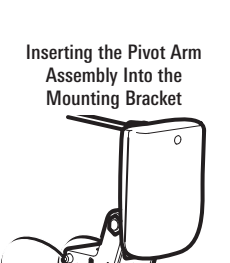

Figure 25
4. Insert the pivot arm assembly into the mounting bracket (Figure 25). Do NOT snap the assembly closed, as you will need to access the mounting bracket in the next step.